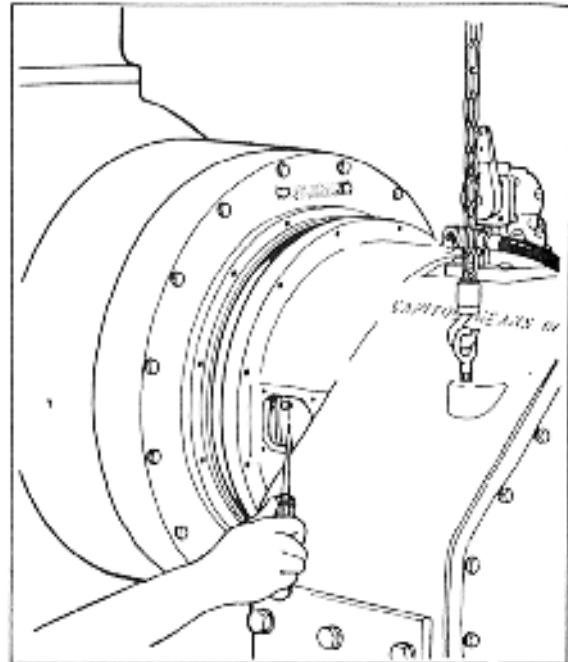

Fig. 20 Maintaining clutch in housing.
8. Insert screwdriver or similar object through side inspection hole to hold clutch assembly inside housing. Slowly move housing aft and away from oil dam. See fig.20.